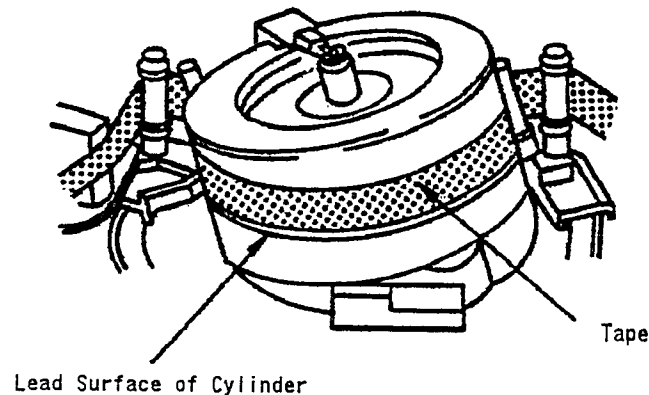

Fig. 5-2
4. Observe the tape transport at the lead surface of the cylinder during the PLAY mode, and confirm that the tape runs smoothly along the lead surface of the cylinder without slipping downward or upward. (Refer to Fig. 5-2).